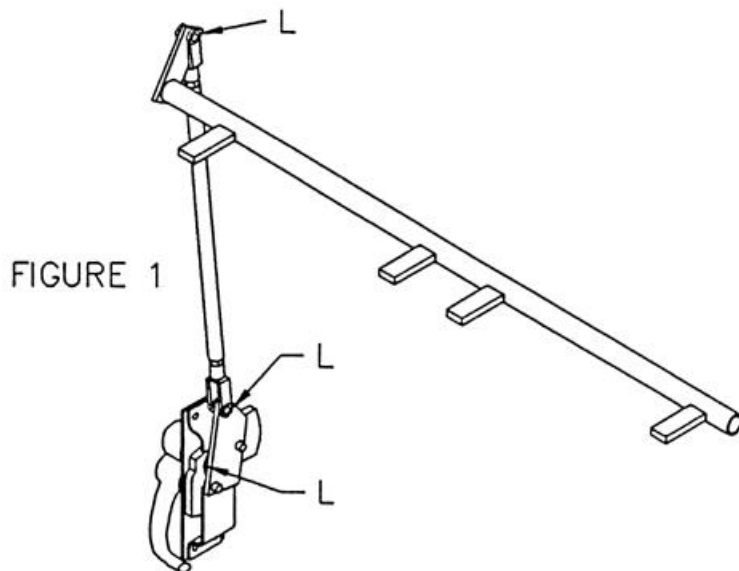
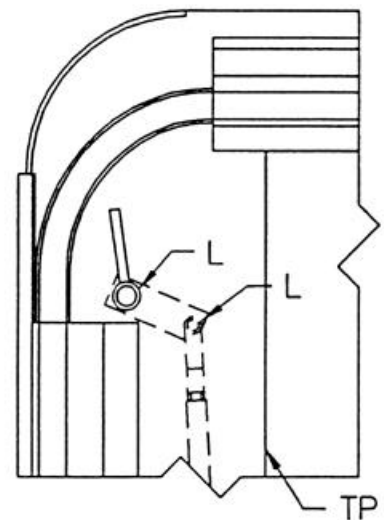

FIGURE 1
FIGURE 2
1. Remove lower access panel (see Figure 2 in section titled "Removal and Replacement of Lock Parts" page 6-5). Spray Hackney Freeway Door Lube on movable part of center case and pin joint at lower end of rod assembly (see Figure 1).
2. Reach behind track plate and spray Hackney Freeway Door Lube on pin joint at upper end of rod assembly (see Figure 2).
3. Spray Hackney Freeway Door Lube on lock rod where it comes out of body end section (see Figure 2).